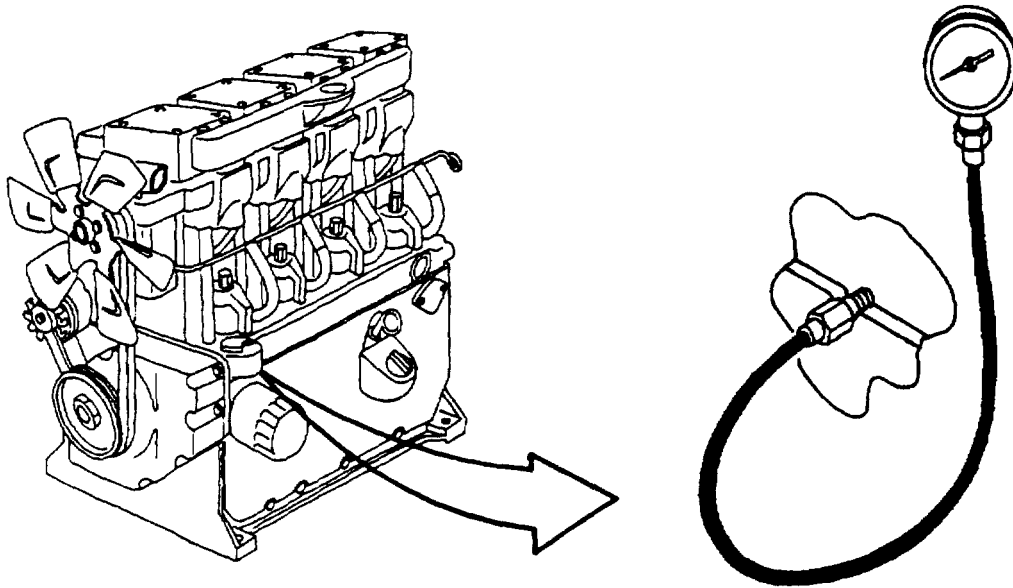

FIGURE 3-18. Oil Pressure Test Setup
- Tag and disconnect electrical leads to oil pressure sender, remove oil pressure sender, and install test pressure gage, 0-150 psi (0-1034 kPa). Refer to FIGURE 3-18.